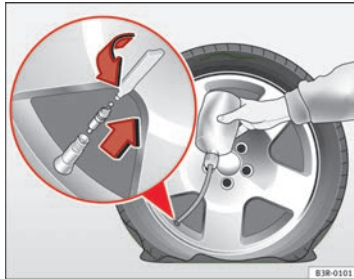

Fig. 201 Repairing a tyre
- Take the valve cap off the tyre valve and use the enclosed valve insert tool to unscrew the valve insert ⇒ Fig. 201.